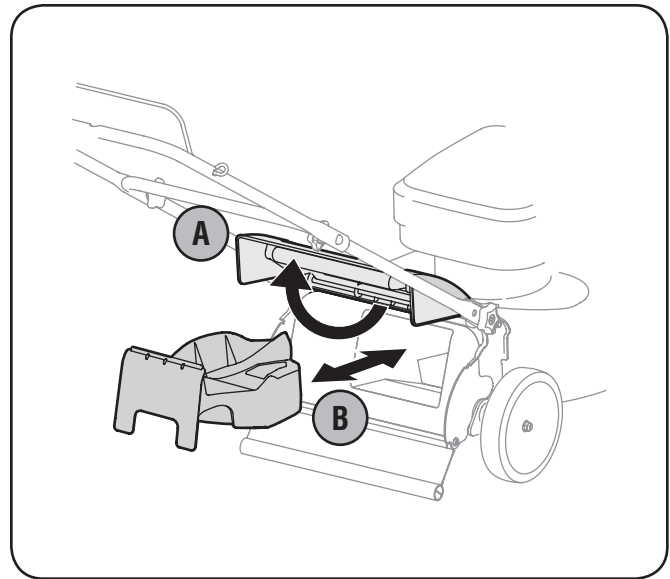

Figure 3-5
- b. Remove mulching baffle. See Fig. 3-5.